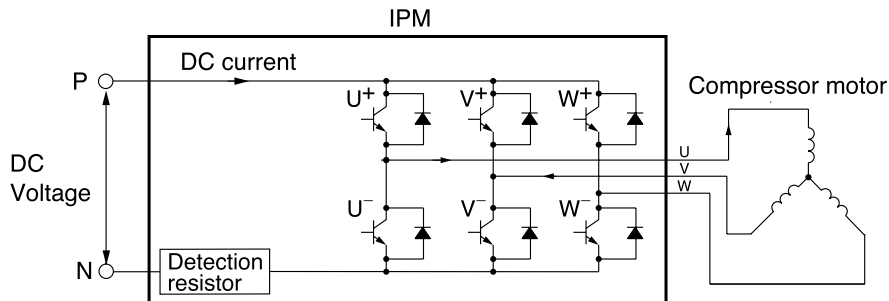

Fig. 6-6
- (1) Turns on the power module's U⁺ and V⁻ transistors so the current flows to the motor windings as shown in Fig. 6-6.
- (2) Varies the turn-ON time of the U⁺ transistor according to the DC voltage level and the start is controlled so the start current is approx. 10A .